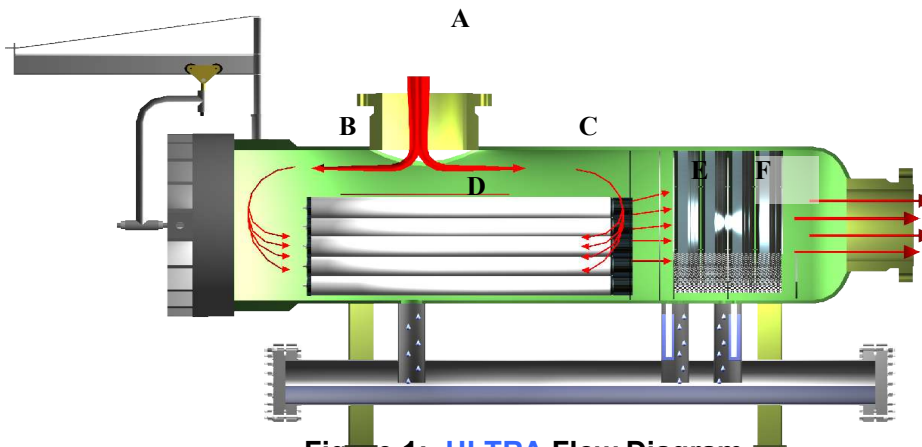

Figure 1: **ULTRA** Flow Diagram
See figure 1. The gas enters the separator at the first-stage, filter-coalescer section through the inlet nozzle (A) and into the **T-Feed** chamber that distributes the gas flow into two directions, the closure end of the vessel (B) and the outlet end of the first-stage chamber (C). The flow enters the coalescing, filter element section (D) where the large solid particles and large liquid droplets fall to the bottom of the vessel to be removed in the first-stage sump. The smaller solid particles are trapped in the **UltraMax** Filters, utilizing ultra fine media in special barrier multi-layers. The small liquid droplets coalesce in the **UltraMax** filters where they are combined into larger liquid droplets (E). Gas and the coalesced liquid droplets flow into the second-stage, inertial **P6X** vane pack (F). The vane pack consists of high capacity patented **P6X** multi-stage, multi-flush-pocket vanes that separate the liquid droplets from the gas at high velocity, draining the liquid into the second-stage drain sump for complete removal.